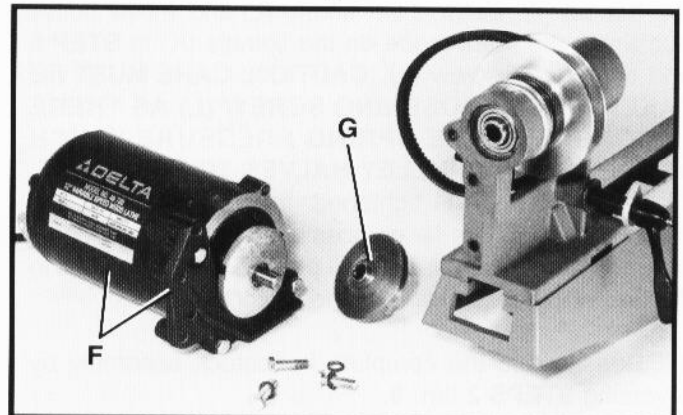

Fig. 96
7. Fig. 96, illustrates the motor and motor bracket (F) removed from headstock and motor pulley half (G) removed from motor shaft.